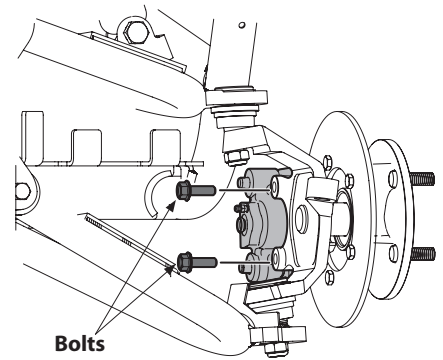

Figure 4-13
- Remove mounting bolts securing caliper and brake pads to steering knuckle. See Figure 4-13.